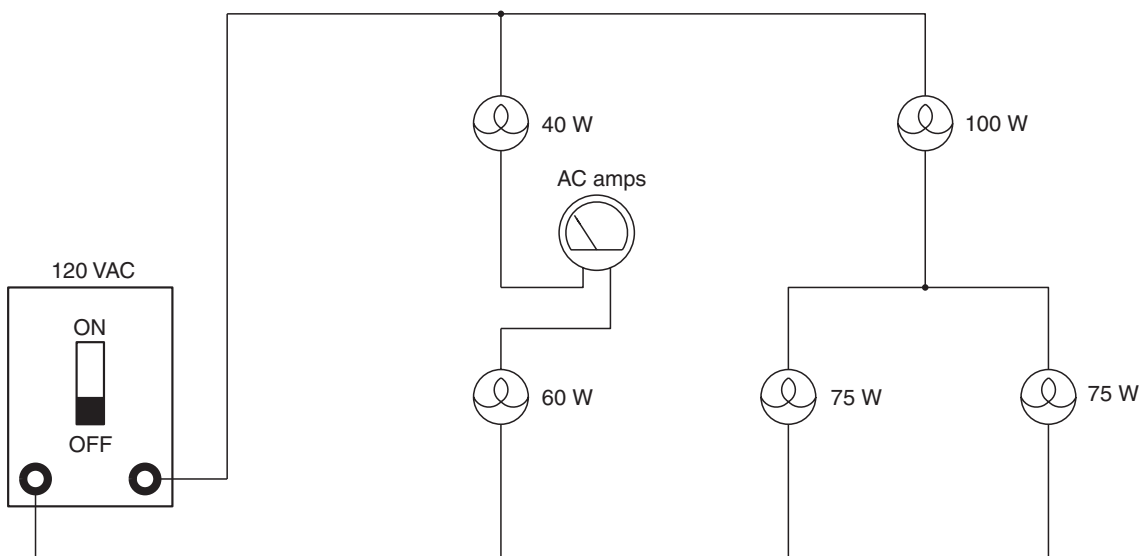

Figure 5-20 Measuring the current flow through the 40 watt and 60 watt lamps.
21. Reconnect the AC ammeter to measure the current flow through the 40 and 60 watt lamps, as shown in Figure 5-20. After the connection is made, turn on the power and measure the current flow.